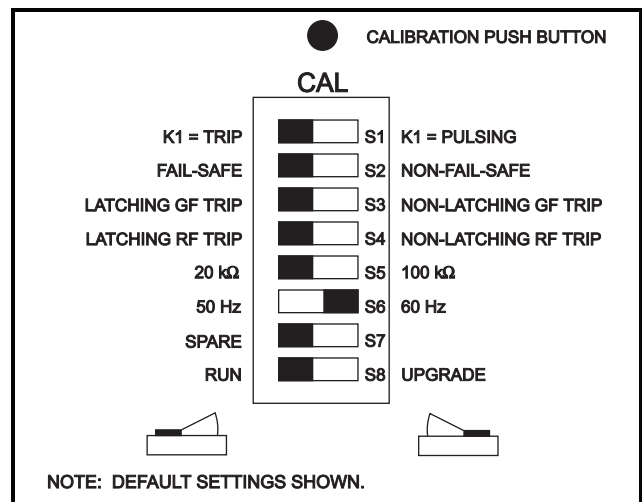

FIGURE 1. Configuration Switches.
- Set switch S8 (behind access cover on the PGR-5330 front panel) to UPGRADE. See Fig. 1.